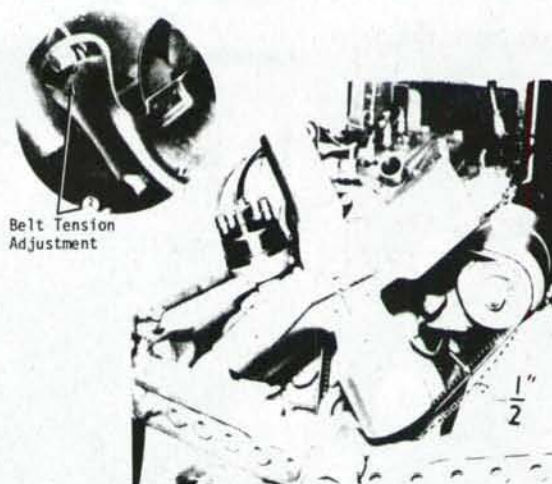

Fig. FO7—Change position of generator to adjust fan belt tension.
8. The fan belt tension is adjusted by changing the position of the generator. See Fig. FO7. The belt tension is correct when the belt can be deflected  $\frac{1}{2}$  inch (13 mm) with moderate thumb pressure.